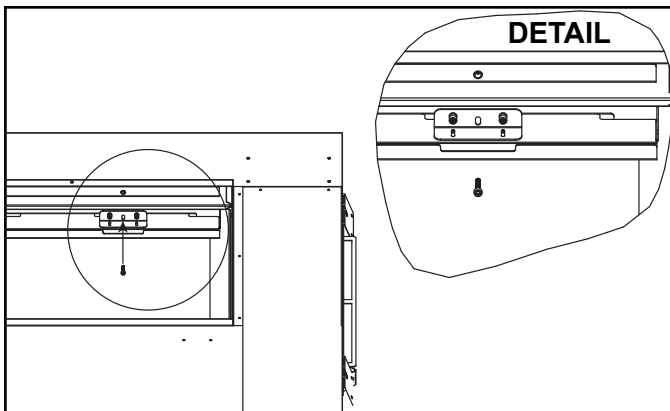

Figure 4.8 Glass Retainer Bar Assembly Installation
5. To fully seat the glass retainer bar assembly, carefully thread the screws, which were removed from the rivnuts in Step 2, into the center hole of the bracket assembly on each side. See Figure 4.8. Use caution to not cross thread the screw. Once both screws are properly aligned and partially installed, the screws may be installed completely.